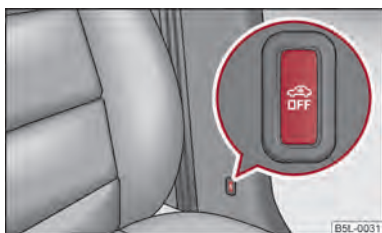

Fig. 18 Button for interior monitor and towing protection monitoring
- Press the button  at the centre column on the driver side ⇒ fig. 18, the symbol  which lights up in the button changes from red to orange.